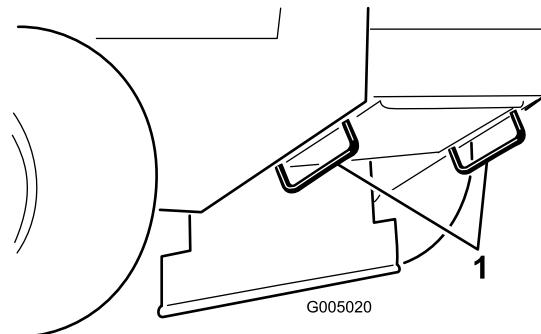

Figure 12
- Use the metal tie down loops on the machine to securely fasten the machine to the trailer or truck with straps, chains, cable, or ropes (Figure 12).